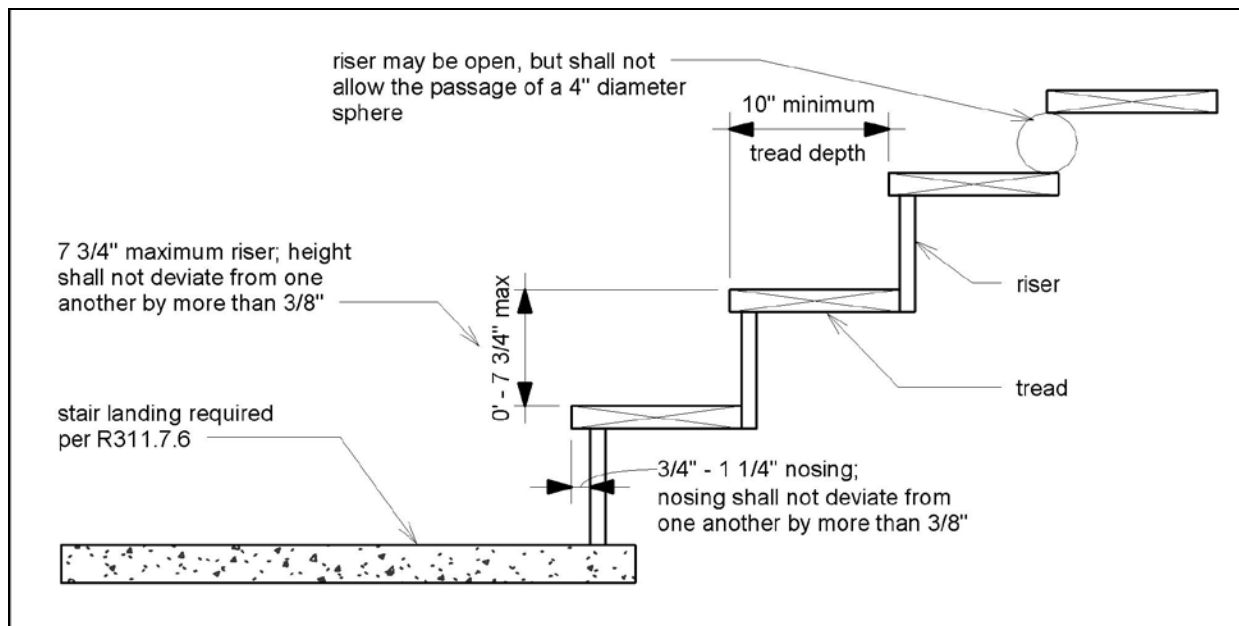

FIGURE 32: TREAD AND RISER DETAIL
- Stringers shall be continuous sawn or solid 2x12s meeting the stair geometry requirements shown in FIGURE 32.